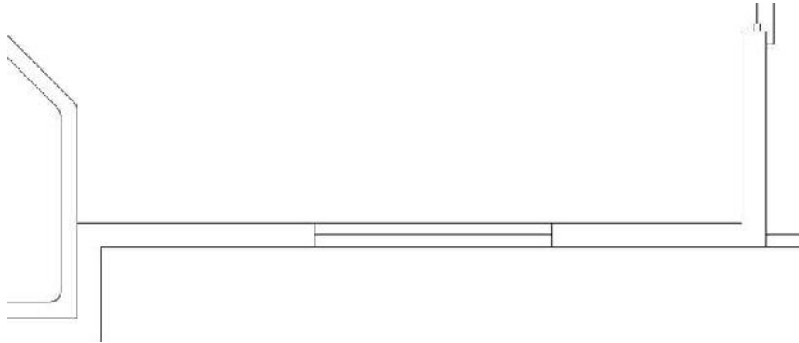

FIGURE 7.40: The new 5'-0" (1525 mm) window in the living room
6. Give the new block an X scale factor of 5, a Y scale factor of 1, and a rotation of 0°. The new window appears as shown in Figure 7.40.